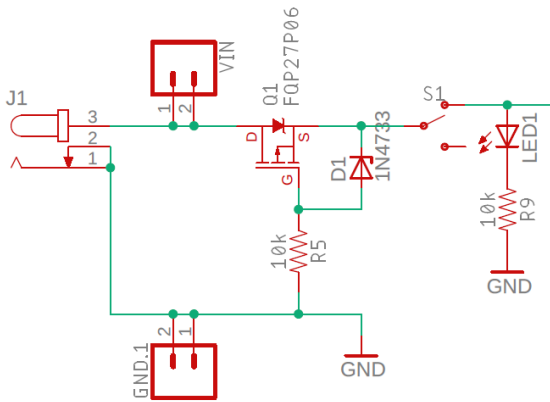
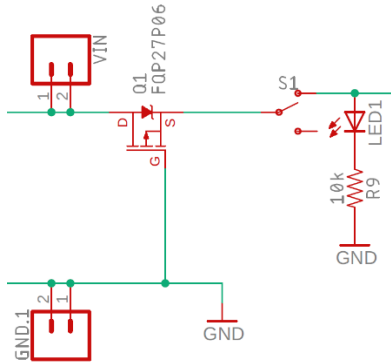

Figure 4: The reverse voltage protection circuit for the audio board.
Figure 6: A simplified version of the reverse voltage protection circuit used on the audio board
It is said that to err is human. When working with your audio board, one of the mostly costly errors that you could make would be to apply the 9V and GND power inputs backwards, called reverse voltage. On an unprotected circuit, prolonged application of reverse voltage will permanently damage components like op amps, BJTs and MOSFETs. To prevent this tragedy, your audio board comes equipped with the reverse voltage protection circuit shown in Figure 4.
To understand the functioning of the circuit, it is helpful to eliminate R2 and D1 in Figure 4 and connect the gate of the PMOS transistor is connected directly to GND as shown in Figure 6.
This is awesome, if you hook up your power cables backwards, the PMOS transistor will act like an open switch and the dangerous reverse voltage will not make it into your circuit. Now we need to understand the role of R2 and D1 that we removed to make the analysis in Figure 6.
6. What voltage will appear between the Gate and Source of the PMOS transistor in Figure 4? Assume the Source = V_{in} .